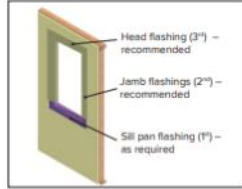

Figure 2. Install rough opening flashing, lapping shingle-fashion (bottom to top of opening).
- Window sill pan flashing with back-dam, rough opening jamb flashings, and head flashings are a recommended installation best practice. Where used or required, install the rough opening flashing elements in shingle-lap fashion (see Figure 2). **NOTE:** Self-adhering and fluid-applied flexible flashings (or equal) are typically used for this purpose. Verify that the rough opening size can accommodate the additional thickness of flashing materials and maintain the required rough opening gap (see Item a).